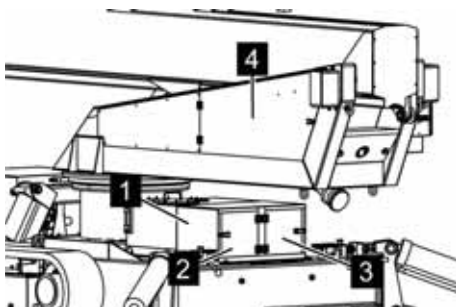

Fig. 105: Shuttle valve cover
2. ➤ Open the doors (Fig. 105/2 and 3) or completely remove the cover (Fig. 105/1).
For platform operation, the doors (Fig. 105/2 and 3) must remain closed.
3. ➤ Open the door (Fig. 105/4).